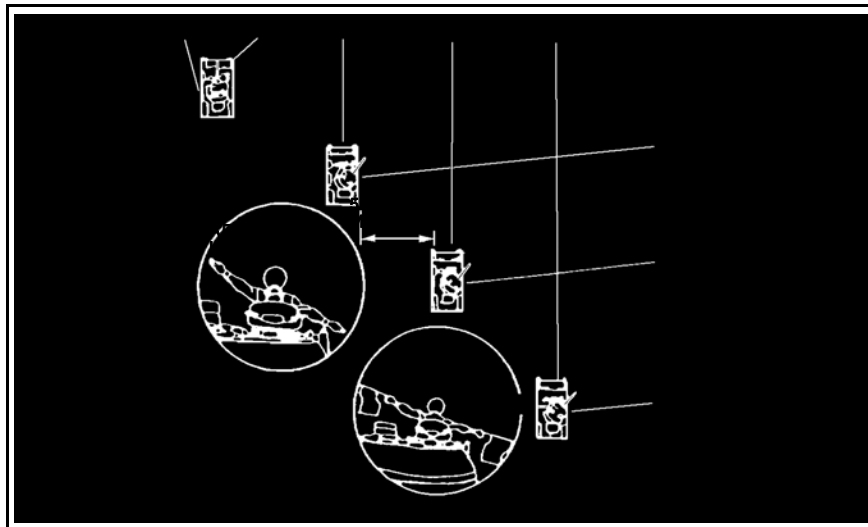

Figure 3. Echelon formation.
c. Select the echelon formation when it is necessary to cover an exposed flank of a larger force (Figure 3). This formation permits excellent firepower to the front and to either right or left flank.